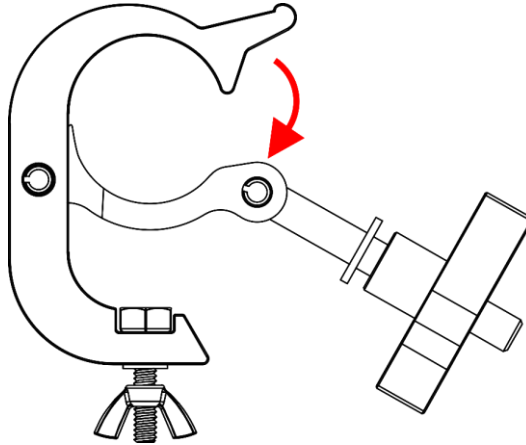

Fig. 04
- 01) Turn the **handle nut (02)** counterclockwise, to loosen it.
- 02) Open the **lock (04)**. See Fig. 04.